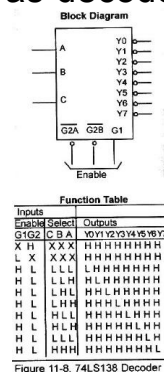

Figure 11-8. 74LS138 Decoder
- The same principle applies to I/O address decoding. Figure 11-8 shows the 74LS138.